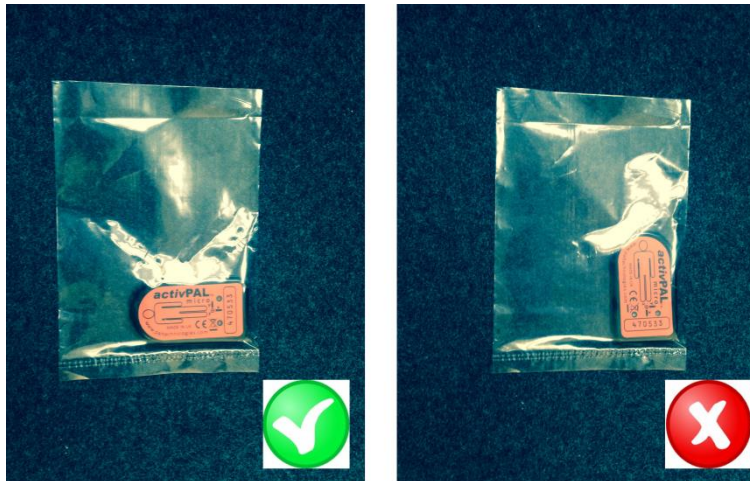

Figure 3: positioning the monitor in the bag
- b) Place the activity monitor into a sealing bag so it lays lengthways at the bottom of the bag (see Figure 3).